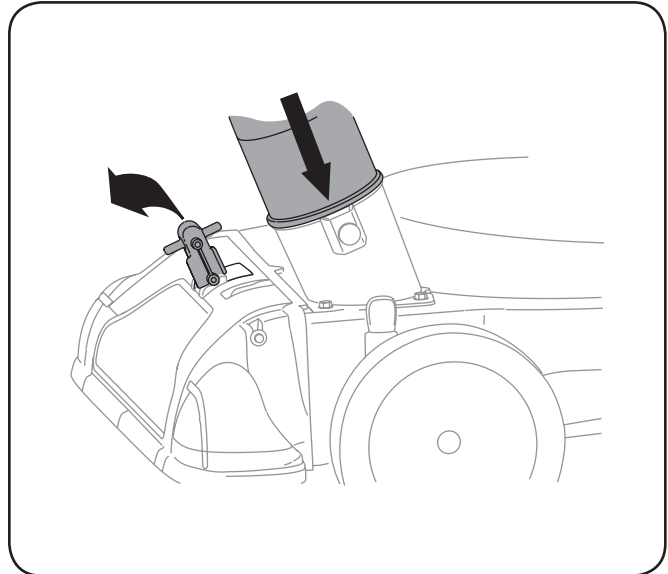

Figure 5-4
1. Place nozzle/hose vac lever in the bottom position on the nozzle to redirect vacuum to the hose assembly. See Fig. 5-4.
2. The spring loaded pin must be in the second hole of the hose adapter to operate the hose assembly. See Fig. 5-4.